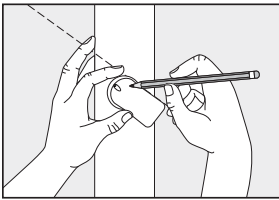

Fig. 1
1. Align the post return according to the handrail layout line and mark attachment hole positions (Fig. 1).